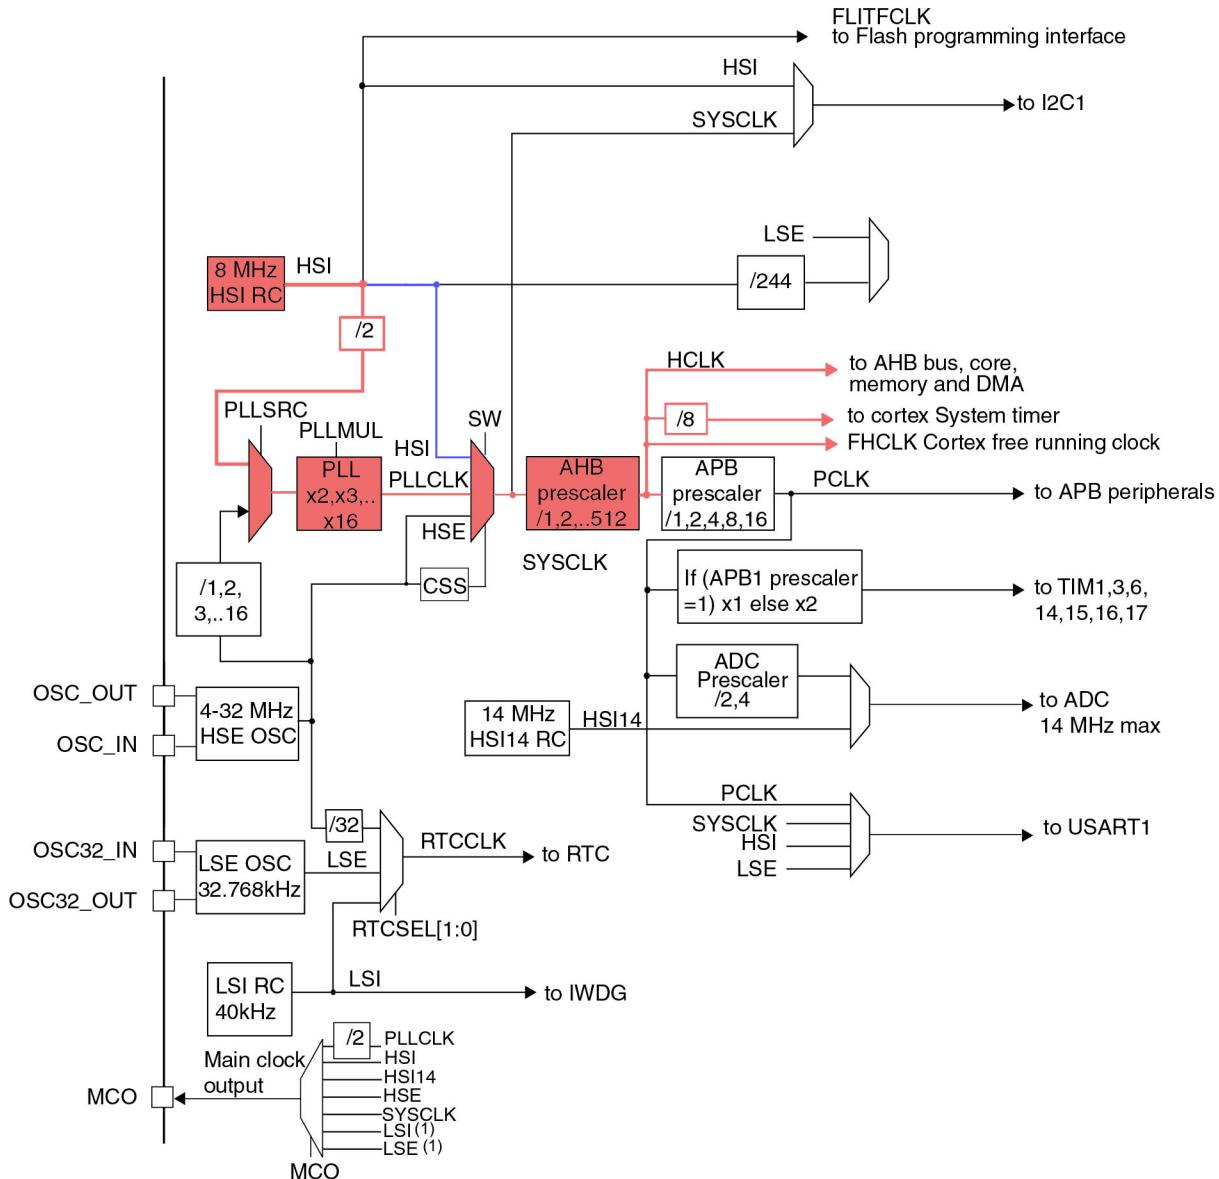
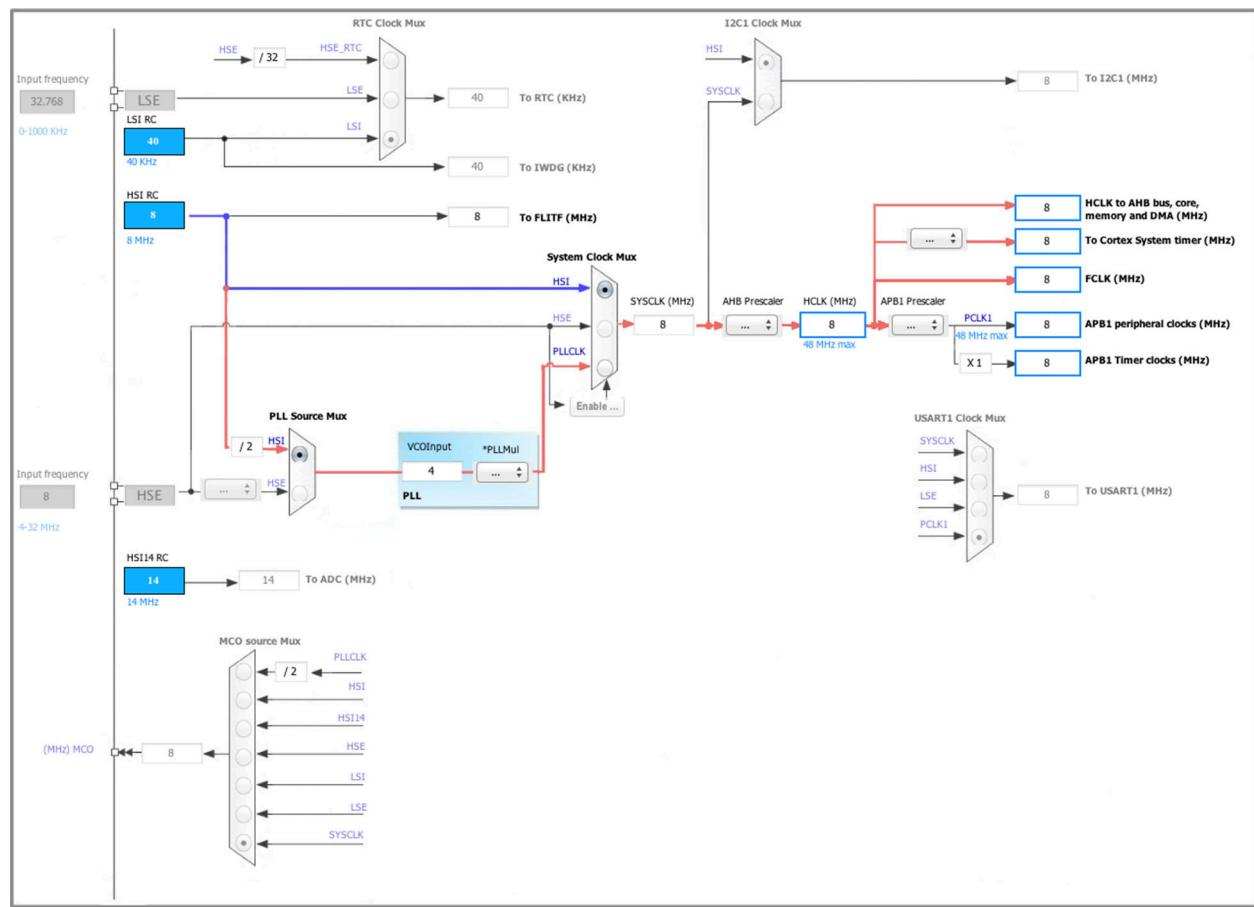

Figure 10.3: The clock tree of an STM32F030R8 MCU
Figure 10.4: How the clock tree of an STM32F030R8 MCU is represented in CubeMX
Figure 10.3 shows the clock tree of one of the simplest STM32 microcontrollers: the STM32F030R8. It is extracted from the related reference manual⁹ provided by ST. For a lot of novices of the STM32 platform that figure is completely meaningless and quite hard to decode, especially if they are also new to embedded microcontrollers. The most relevant path has been outlined in red: the one that goes from the HSI oscillator to the Cortex-M0 core, AHB bus and DMA. This is the path we have “used” since here silently, without dealing too much with its possible configurations. Let us introduce
The path starts from the internal 8MHz oscillator. As said before, it is an RC oscillator factory-calibrated by ST for 1% accuracy at an ambient temperature of 25 °C. The HSI clock can then be used to feed the *System Clock Switch* (SW) as is (path highlighted in blue in Figure 10.3) or it can be used to feed the PLL multiplier after it has been divided by two thanks to an intermediate prescaler¹⁰. The main PLL so can multiply the 4MHz clock up to 12 times to obtain the maximum *System Clock Frequency* (SYSCLK) of 48MHz. The SYSCLK source can be used to feed the I2C1 peripheral (in alternative to the HSI) and another intermediate prescaler, the AHB prescaler, which can be used to lower the *High (speed) Clock* (HCLK), which in turn biases the AHB bus, the core and the *SysTimer*.
We have already encountered in Chapter 4 the CubeMX *Clock Configuration* view. Now it is the right time to see how it works. The Figure 10.4 shows the clock tree of the same F0 MCU seen so far. As you can see, thanks to the more room available on the screen, the distribution network looks less cumbersome.
Even in this case, the most relevant paths of the clock tree have been highlighted in red and blue. This should simplify the comparison with the Figure 10.3. When a new project is created, by default CubeMX chooses the HSI oscillator as default clock source. HSI is also chosen as default clock source for the *System Clock Mux*¹⁴ (path in blue), as shown in Figure 10.4. This means that, for the MCU we are considering here, the Cortex-M core frequency will be equal to 8MHz.
¹⁴The *System Clock Mux* is the *System Clock Switch* (SW) seen in Figure 10.3
CubeMX also advises us about two things: the maximum frequency for the *High (speed) Clock* (HCLK) and the APB1 bus is equal to 48MHz in this MCU (labels in blue). To increase the CPU core frequency, we first need to select the PLLCLK as the source clock for the *System Clock Switch* and then choose the right PLL multiplier factor. However, CubeMX offers a quick way to do this: you can simply write “48” inside the HCLK field and hit the enter key. CubeMX will automatically arrange the settings, choosing the right clock tree path (the red one in **Figure 10.4**)